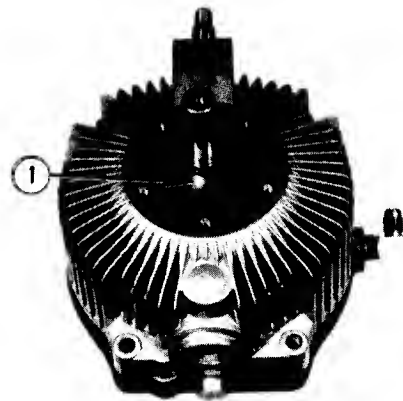

FIG. 4.40-CHARGE PUMP CARRIER & ROLLS (6)
3. Lift off charge pump body being careful not to damage oil seal noting position of six rolls, No. 1 Fig. 4.40.